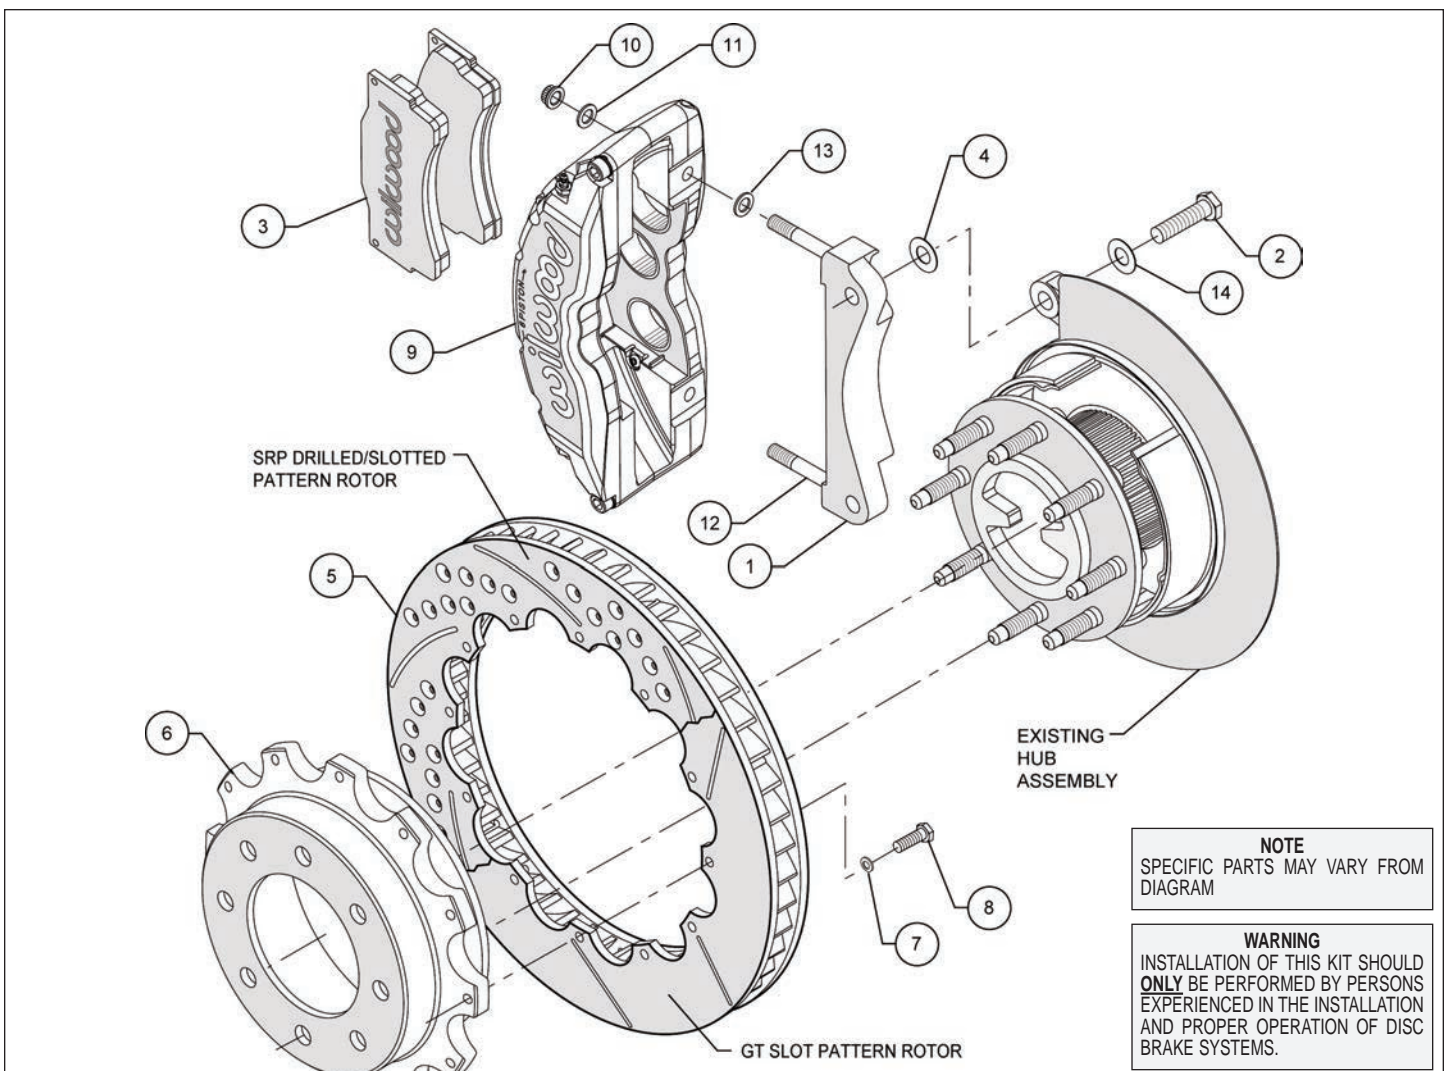
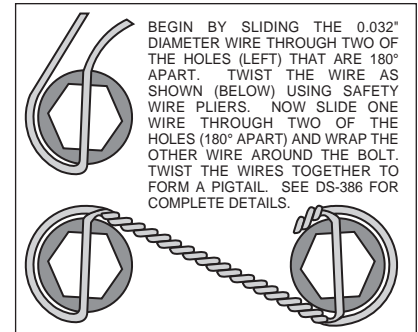

Figure 1. Typical Installation Configuration
Figure 3. Safety Wire Diagram
- The caliper mount bracket assembly (1) should be installed first with clean, dry threads on the mounting bolts (2). Install the bracket by sliding bolt (2) through washer (14) from the rear side of the hub through the OEM caliper mounting bracket ears, then through an additional shim washer (4) and into the bracket (1). The bracket must tighten squarely against the outboard side of the caliper mount bosses on the upright. Inspect for interference from casting irregularities, machining ridges, burrs, etc. Use one shim (4) between the bracket and upright during initial trial fitting. Later, after the caliper, pad, and rotor alignment have been checked, and any necessary shims have been put in place, the mounting bolt threads (2) should be coated with red *Loctite*® 271 and torqued to 95 ft-lbs.
- Attach the rotor (5) to the hat (6) using bolts (8) and washers (7) as shown in Figure 1. Using an alternating sequence, remove bolts one at a time, apply red *Loctite*® 271 to the threads, and torque to 25 ft-lb. Bolts must be safety wired using standard 0.032 inch diameter stainless steel safety wire as shown in Figure 3. Please refer to Wilwood's data sheet DS-386 (available at [www.wilwood.com/Pdf/DataSheets/ds386.pdf](http://www.wilwood.com/Pdf/DataSheets/ds386.pdf)) for complete safety wire installation instructions.
- Lubricate caliper mounting studs and nuts with lightweight oil. Install one shim (13) over each stud (12) on the radial mount bracket (1). Slide the caliper (9) in place over the studs and rotor and install the washers (11) [up to 4 may be required on each side to keep the lock nut from bottoming out on the stud], and lock nut (10) to hold the caliper in place. The caliper bleed screws should be pointing up. Snug the lock nuts (10) and check that the rotor (5) is centered in the caliper (9). Add or subtract .029" shims (4) as necessary between the caliper mount bracket and the caliper mount bosses on the upright assembly to center the caliper.